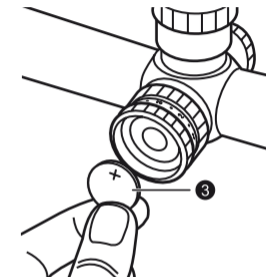

Fig. 3-2
- Insert one 3V lithium battery **3** into the chamber with the positive (+) side facing up (Fig. 3-2).